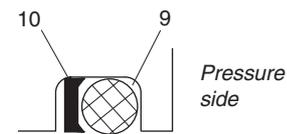

Fig. 6 End Cap O-Ring and Back-Up Washer
- 1 Lubricate and install a new back-up washer (10) in the groove in the hydraulic end cap, with its concave surface facing the inner end of the cap.
- 2 Lubricate and fit a new O-ring (9) against the concave face of the back-up washer, as shown in figure 6.